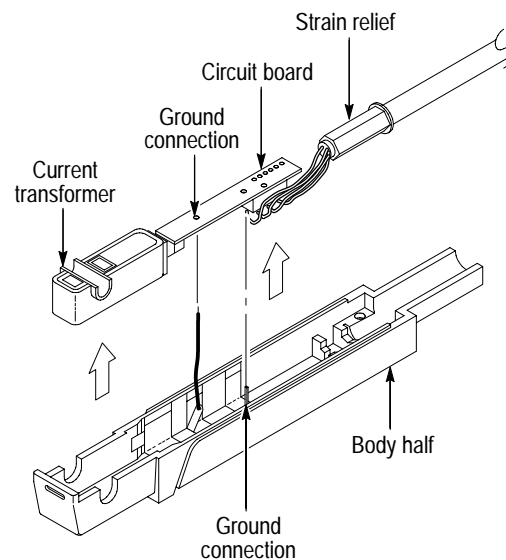

Figure 11: Removing the current transformer and cable assembly of the A6302 probe
2. To remove the cable assembly, unsolder the two connections on the circuit board then lift the strain relief and circuit board from the body half. Refer to Figure 11.